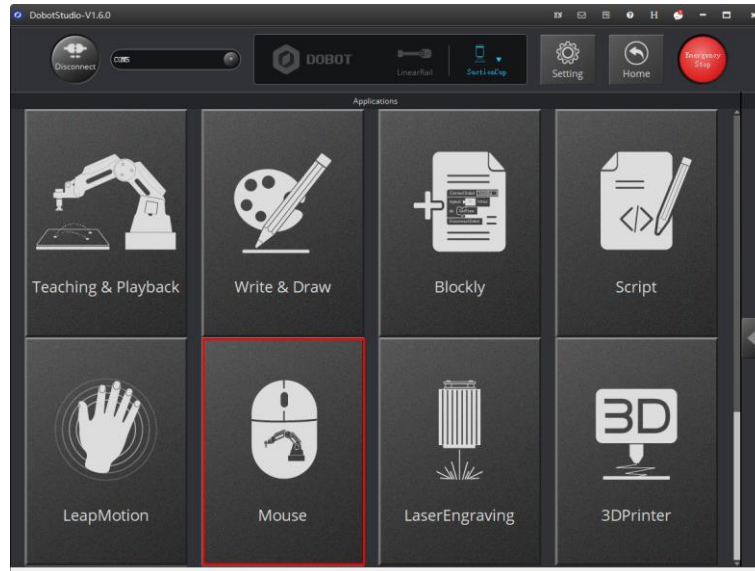

Figure 5.111 Click Mouse
Step 1 Click **Mouse**, as shown in Figure 5.111.